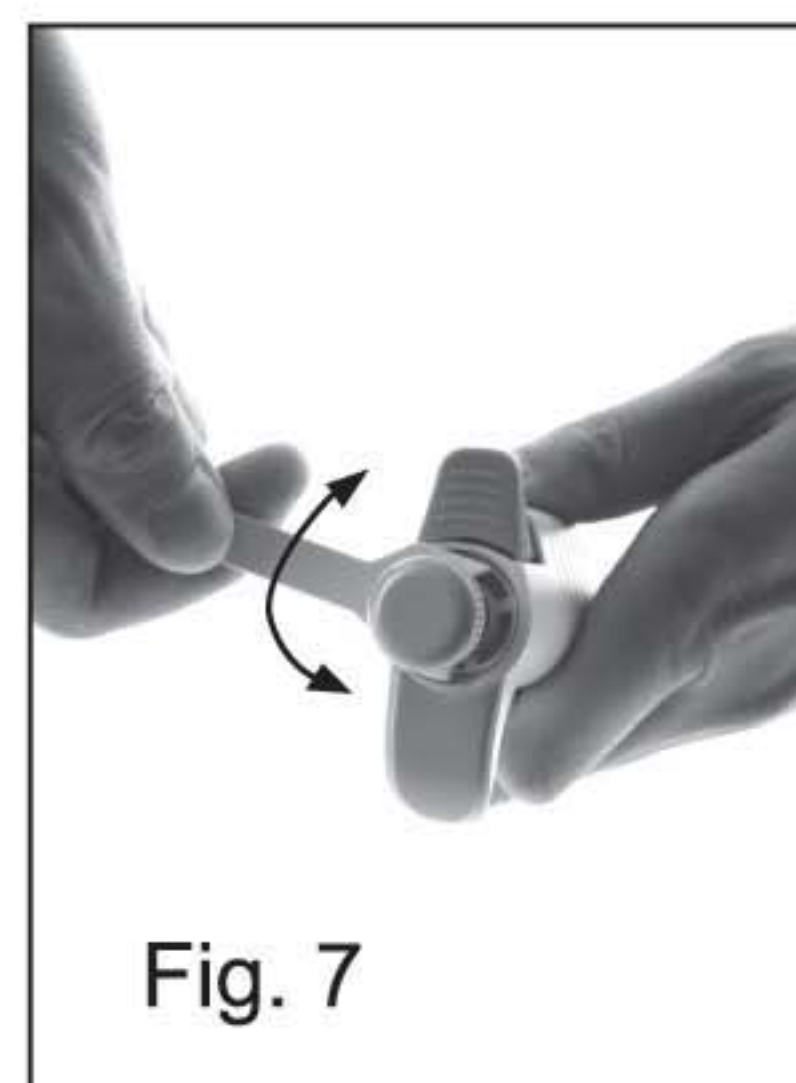

Fig. 7
1. Place the calibration tool into the holes of the calibration adjustment lock (under the thumb button) (Fig. 7).